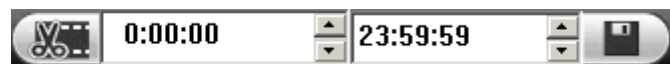

Figure 5-74
- In this following figure, input start time and end time. See Figure 5-74. Click save button .